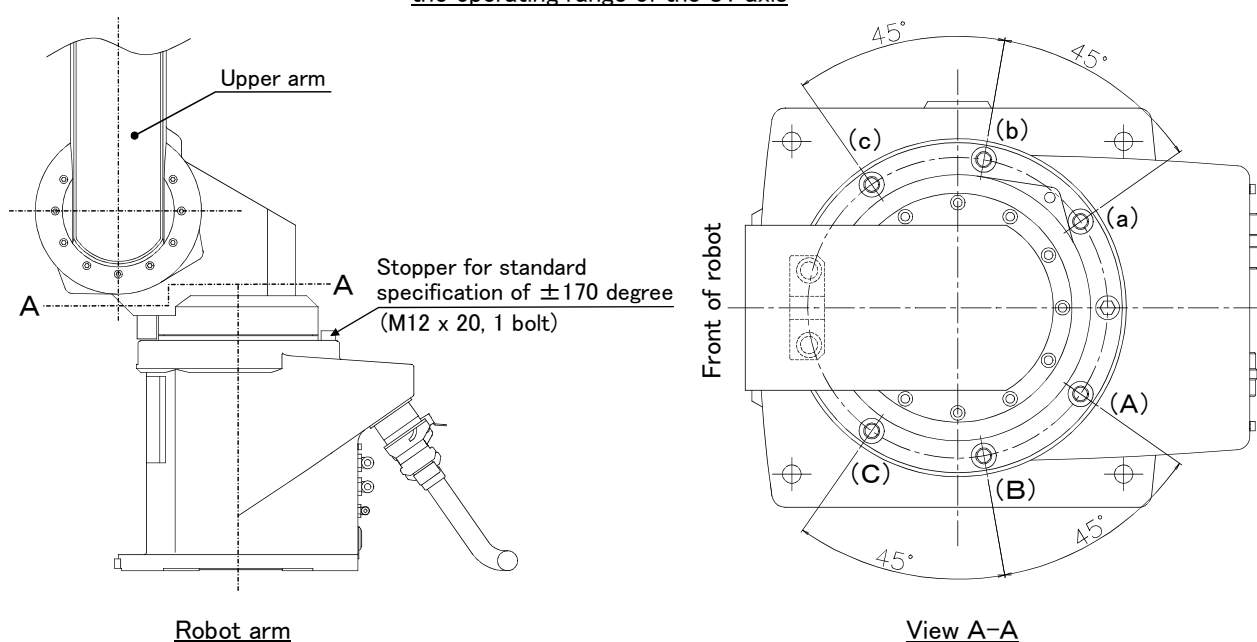

Fig.3-6 : Installation of operating range change option
Note) The insertion position given in the table indicates the insertion position for the operating range change stopper. (Refer to Fig. 3-6.)
- 1) Move the upper arm to the posture as shown in Fig. 3-6 by jog operation.
- 3) By referring to Table 3-2 and Fig. 3-6, insert the two stoppers (M12 x 20) used to change the movement range of J1 axis at the angular position to be changed, and fix securely by applying a clamping torque of 120 to 15086 N · m.
Do not remove the stopper for the standard specification of ± 170 degree shown in Fig. 3-6.